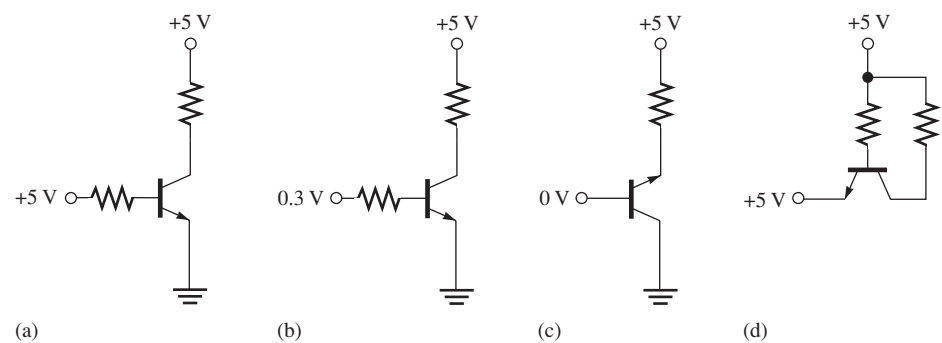

FIGURE 15-55
16. Determine which BJTs in Figure 15-55 are off and which are on.